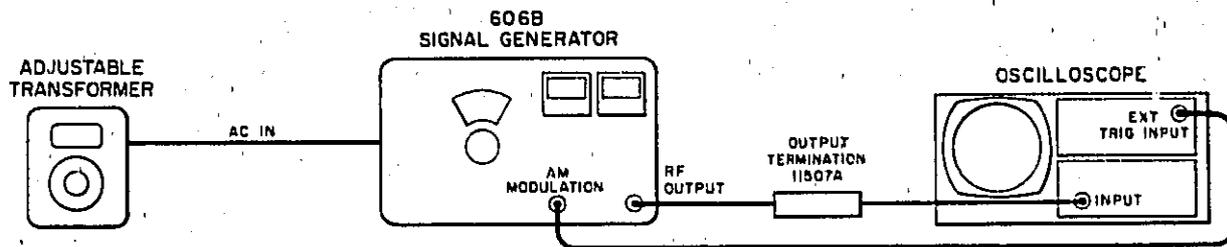

Figure 5-5. Modulation and Percent Modulation Meter Test Setup
a. Connect test equipment as shown in Figure 5-5 and set line voltage to 115 (230) volts.